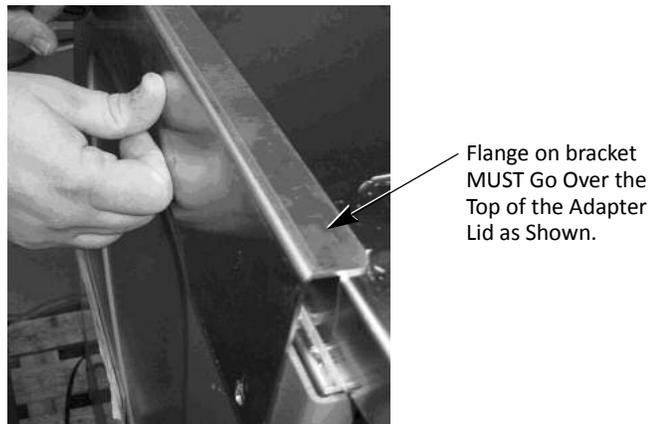
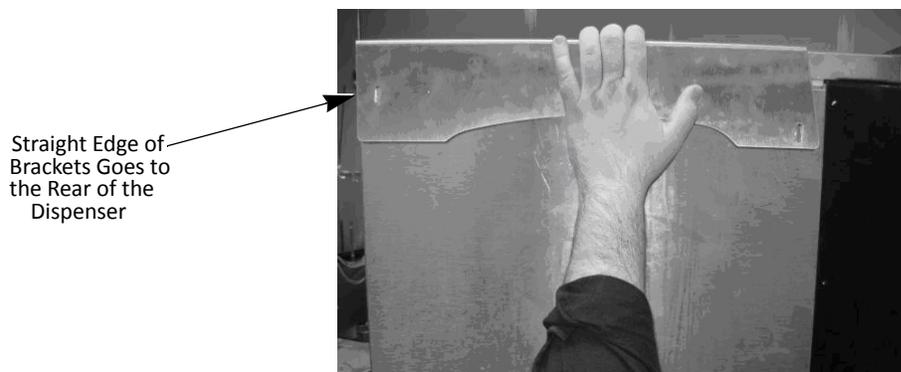

Figure 4.
Figure 13.
2. Position bracket with the straight edge towards the rear of the unit, as shown in Figure 13. Also, the flange of the bracket must be over the adapter lid, as shown in Figure 4.